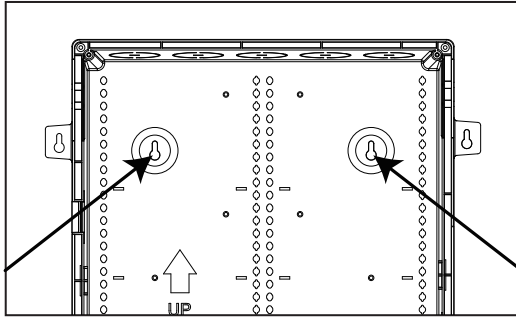

Fig. 1
1. Surface Mounting (see Fig. 1)